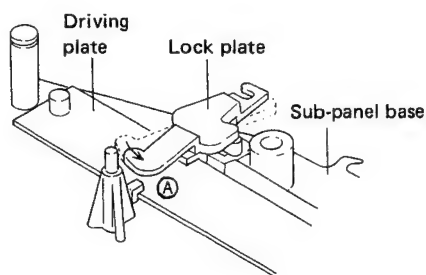

Fig. 12-7 Cam assembly attachment
The cam assembly is attached by letting the lock plate go in the direction ① as shown in figure 12-7.